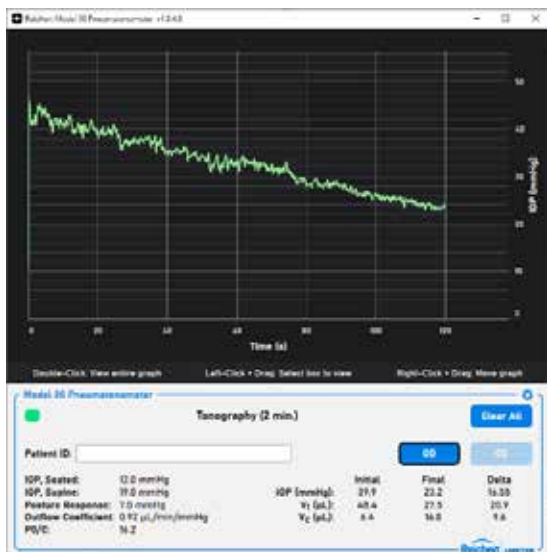

Figure 7-12, Software Graph
3. If the device is connected to a PC running the Model 30 Pneumatonometer PC Software, the application will show a live graph of the exam. When the test has completed, the results will be displayed in the main panel, and all data will be exported as files in the specified Output Path. Refer to Figure 7-12.